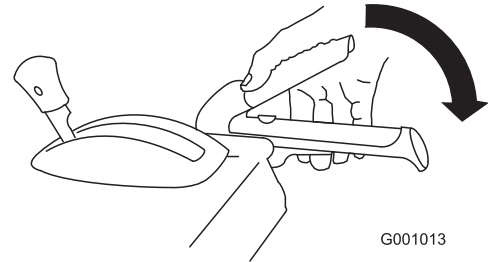

Figure 30
1. To engage the auger/ impeller drive, squeeze the right (auger/ impeller) lever to the handgrip (Figure 30).